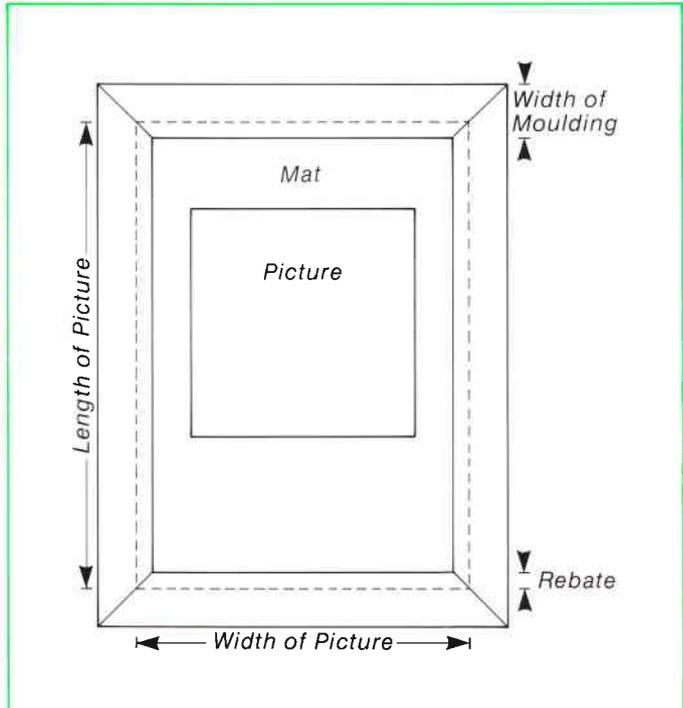

FIGURE 1
- 1. WOOD** Any seasoned, straight-grained timber is suitable. To determine the total length of your frame material, the standard equation is: Twice the length plus twice the width of the picture, plus eight times the width of the moulding. Add about 300-500mm for cutting and waste. (**Figure 1.**)